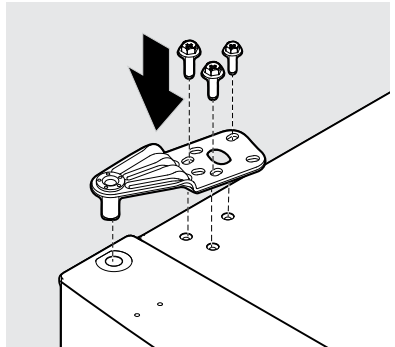

Figure 8
- Using a Phillips™ screwdriver or a 5/16" wrench, secure the top hinge using three 5/16" screws. (see Figure 8).